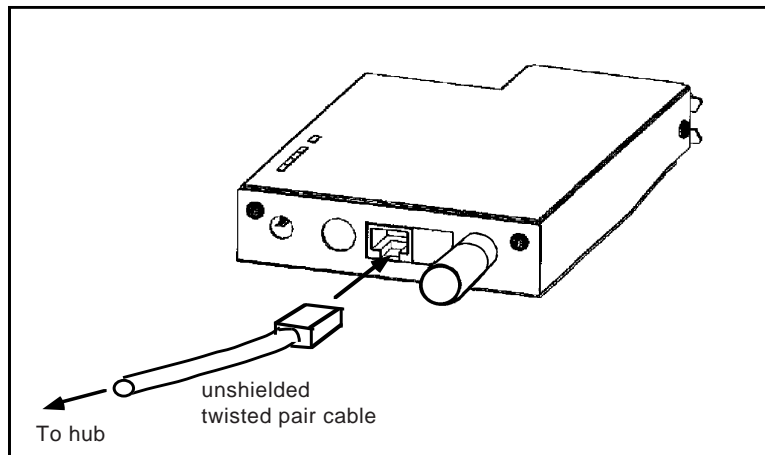

Figure 2-4
1. Connect one end of the RJ45 cable to the print server connector labelled "10baseT" on the XConnect II or XConnect II Lite (*not the one labelled "Serial"*), or "100baseTX/10baseT" on the XConnect 100 or Pony 100 and the other end to a port on the twisted pair Ethernet hub as shown in figure 2-4. Note that the XConnect 100 automatically determines whether it is connected to a 10baseT or 100baseTX network.